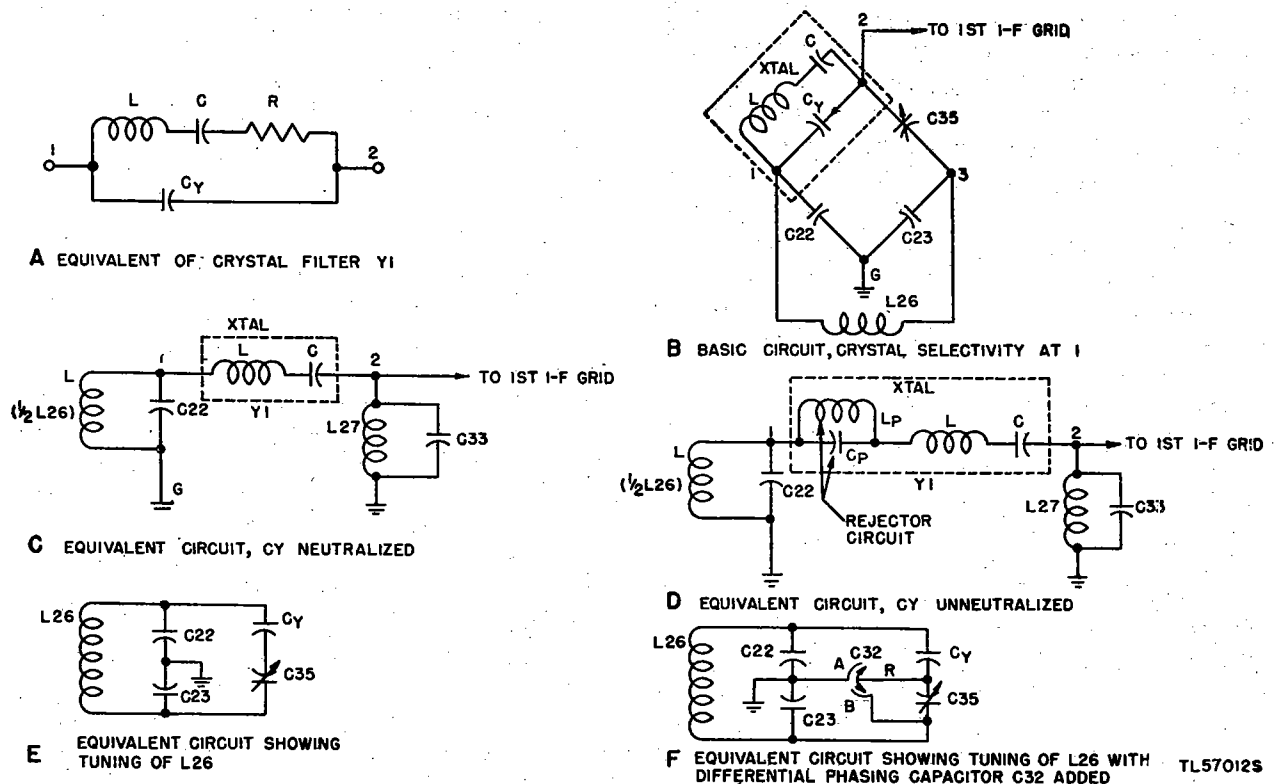

Figure 28. Radio Receiver BC-779-B, functional and equivalent diagrams of crystal filter circuit.
(4) Refer to appendix III for circuit details of Improvement Kit MC-531.
61. Crystal Filter (fig. 28)
a. EQUIVALENT CRYSTAL CIRCUIT. The equivalent electrical circuit of a crystal is shown in "A," figure 28. The circuit, and hence the crystal, are resonant at two frequencies: The frequency at which the reactance of L is equal to the reactance of C (series resonance), and the frequency at which the effective reactance of L-C (in series) is *inductive* and *equal* to the capacitive reactance of C_X (parallel resonance). At the series-resonant frequency the crystal acts as a low-impedance connection between 1 and 2. At the parallel-resonant frequency the crystal acts as a high impedance between 1 and 2.
b. BASIC FILTER CIRCUIT ("B," fig. 28). Capacitors C22 and C23 (100 mmF each) are connected in series across the secondary of i-f input transformer L26, and their junction is grounded to provide a midpoint connection in the resonant circuit L26-C22-C23. Consequently, the capacitor voltages are always of equal amplitude but 180° out of phase. Phasing capacitor C35 (1.5 to 5 mmF) is connected between 3 and 2, and the crystal is connected between 1 and 2.
c. NEUTRALIZATION OF C_X . Capacitors C22, C23, C35, and C_X (the capacity between the crystal holder plates) form a capacity bridge; the input is applied to 1 and 3, the output is taken from 2 and G. When capacitor C35 is adjusted so that its capacitance is equal to that of C_X , the voltage coupled from 3 through C35 to 2 is equal and opposite to the voltage coupled from 1 through C_X to 2. Under this condition C_X is neutralized and the crystal acts as a series-resonant circuit only ("C," fig. 28). Since the crystal is resonant at the intermediate frequency, there is (in effect) a direct connection between 1 and 2. As indicated in "C," figure 28, only the voltage across C22 (one-half the secondary voltage) is applied through the crystal to the grid circuit of the first i-f stage.
tance of L - C and the capacitive reactance of C_Y . For simplicity the parallel-resonant circuit is denoted as rejector circuit $L_P C_P$ in "D," figure 28. L_P and C_P denote the effective inductance and capacitance at the parallel-resonant frequency. L and C indicate the effective inductance and capacitance of the crystal at the series-resonant frequency, in this case the 465-kc i.f. In other words, unless C_Y is neutralized, the crystal acts simultaneously as a parallel- and series-resonant circuit. The parallel-resonant circuit $L_P C_P$ has no effect on the 465-kc i.f. but presents a high impedance to, and therefore rejects, the frequency to which $L_P C_P$ is resonant. L and C present extremely low impedance to the 465-kc i-f signal voltage and high impedance to voltages at different frequencies. *With underneutralization the resonant frequency of $L_P C_P$ is higher than 465 kc.*
f. **CAPACITOR C32.** Capacitor C_{35} , in series with capacitance C_Y , is across L_{26} and affects its tuning ("E," fig. 28). To avoid the detuning effect and to enable shifting the rejection frequency to either side of the i.f., differential PHASING capacitor C_{32} ("F," fig. 28) is used in the radio receiver. Stator sections A and B are so arranged that, as rotor R is turned out of one stator into the other, the capacitance of the first decreases by the same amount that the capacitance of the second increases. Thus, whether the rotor is entirely engaged in stator A, is at a midpoint, or is entirely in stator B, the effective capacitance across A-B, and therefore across L_{26} , remains constant. Assume that C_{32} , the PHASING capacitor, is set at the arrow position of the PHASING control on the front panel and
(2) *CRYSTAL SELECTIVITY switch at 1.* When CRYSTAL SELECTIVITY switch SW7 is placed at 1, the short is removed from the crystal. If the secondary of L26 and the parallel-resonant grid circuit, L27-C33, are tuned to 465 kc, each is the equivalent of a high resistance in series with the equivalent series-resonant circuit of the crystal ("C," fig. 28). Consequently, the Q and therefore the selectivity of the series-resonant (crystal) filter circuit is reduced, and the bandwidth is several kilocycles wider than that of the crystal alone.